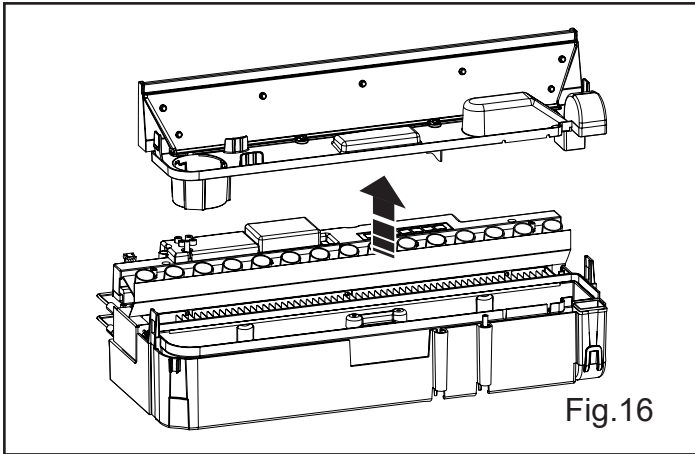

Fig.16
5. There are two clips, one on the left and one on the right hand side of the sump, holding down the sump. On the left side press in the clip with one hand and with the other lift the nozzle out of the clip. Repeat this for the right side (Fig.15). The nozzle is now released, lift this off and place aside (Fig.16)